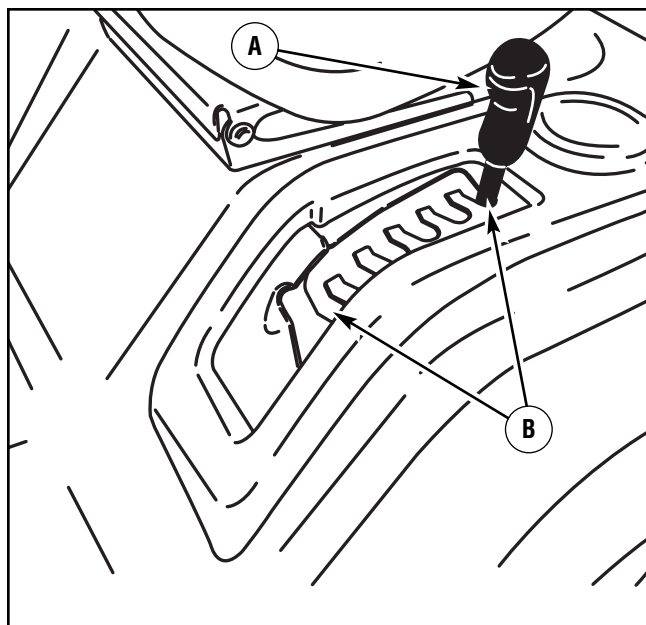

Figure 37: Deck lift lever
2. Mow a short distance on a flat level area to check the level of cut and the height of cut. Look at the **height of cut position number** on the **deck lift lever** (Figure 37).